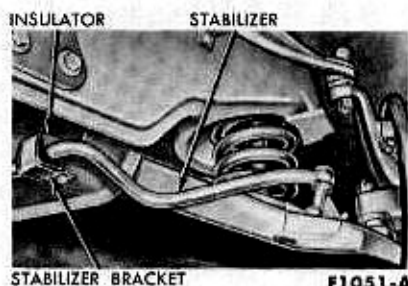

FIG. 13—Stabilizer
2. Disconnect the stabilizer from both lower arms (Fig. 13). Disconnect both stabilizer retaining brackets, and remove the front cross member guard. Remove the stabilizer.